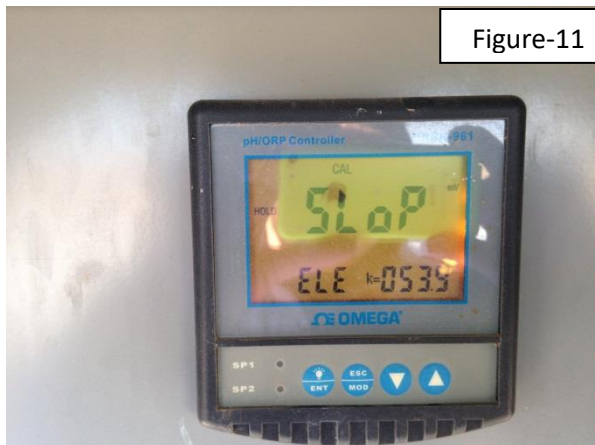

Figure-11
2.3.1.8.3 If error doesn't appear on PLC screen, screen will read "Slope" after PLC has buffered to pH 10. See Figure-11.